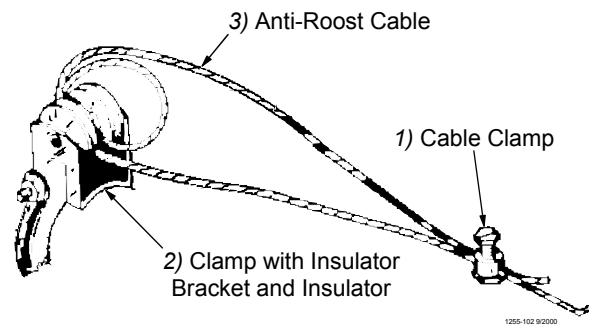

Figure 80. Anti-Roost Cable at the Hopper
2. Start at the hopper end of the line and form a loop around the anti-roost bracket. For best results, make a double loop around the anti-roost insulator in the center groove of the insulator and fasten with a 1/16" cable clamp as shown in **Figure 80**.